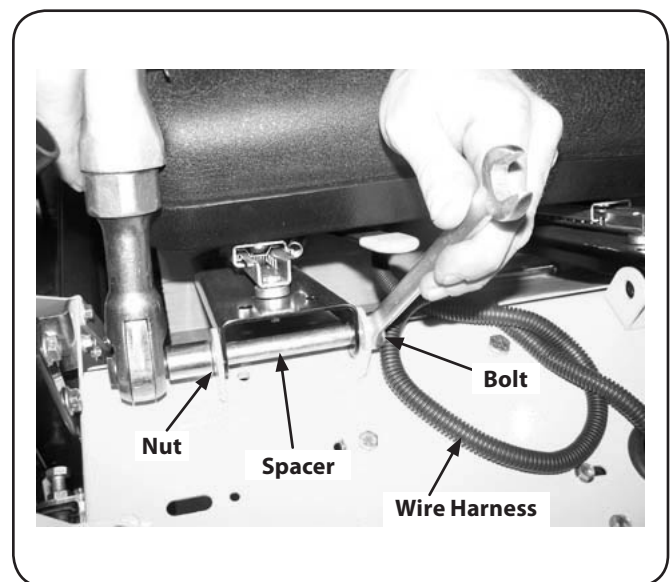

Figure 3-3
3. Rotate the seat into position and secure the seat into place with the previously removed shoulder bolts, nuts and spacers. Be careful not to crimp or damage the wire harness while installing the seat. See Figure 3-3.